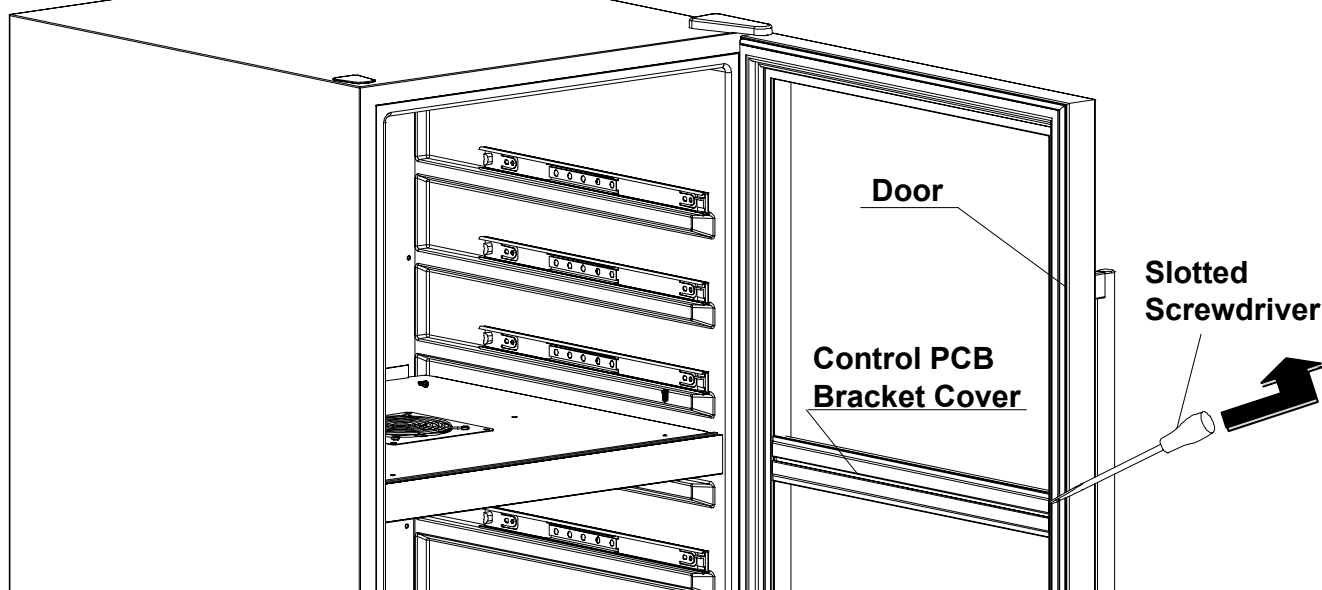

Figure 29
Step 3: Pull the cover out (Figure 29);